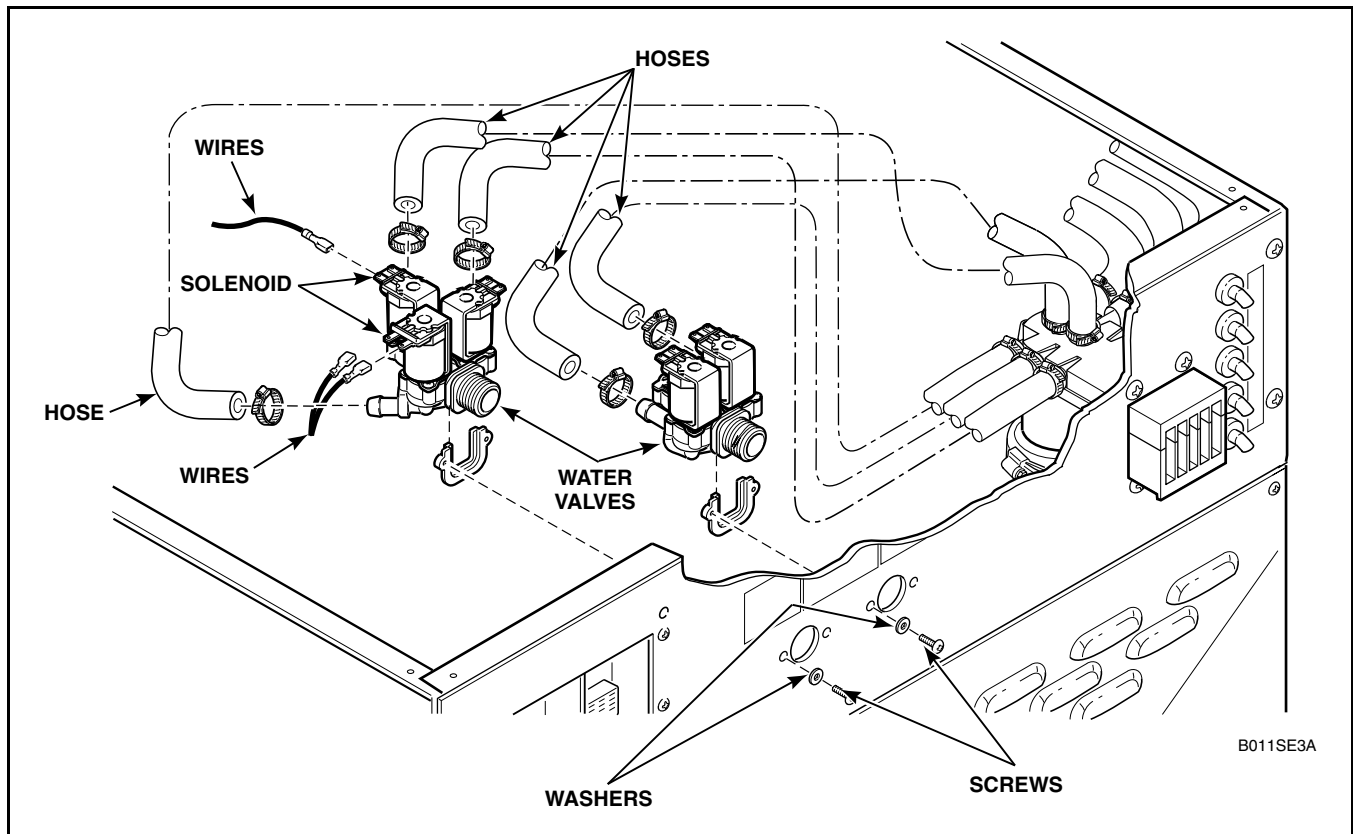

Figure 12
- b. Disconnect wires from valve solenoid, refer to *Figure 12*.
- c. Loosen hose clamps and remove hoses from valves, *Figure 12*.